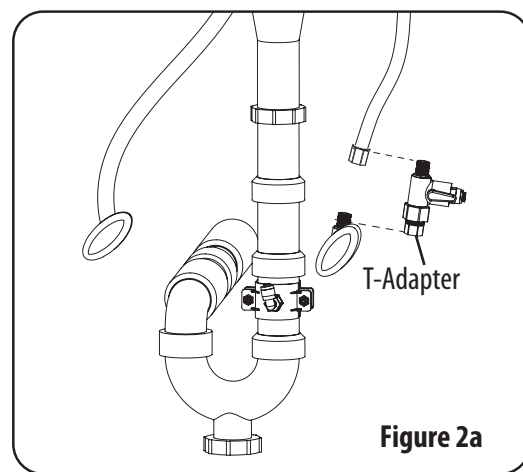

Figure 2a
1. Turn off the cold water supply, disconnect the hose pipe. Take the T-Adapter out from the accessory bag, install it on the pipe line as shown in figure 2a & 2b.